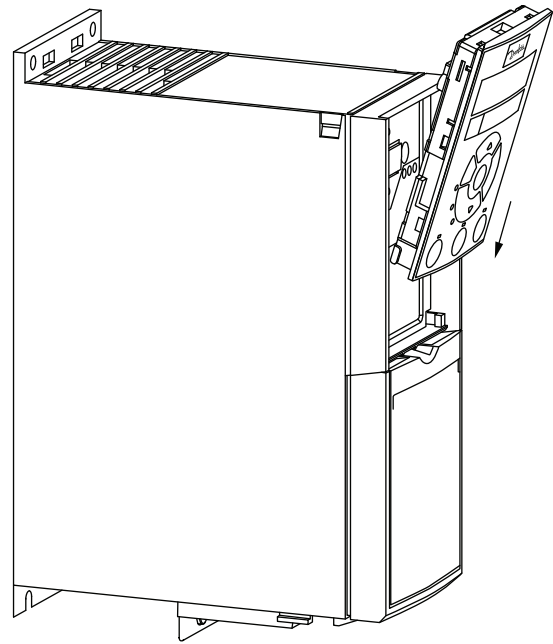

Fig. 60 — Align Bottom of VFD Keypad with Opening in VFD Front Panel
1. Place the bottom of the VFD keypad into the variable frequency drive as shown in Fig. 60.